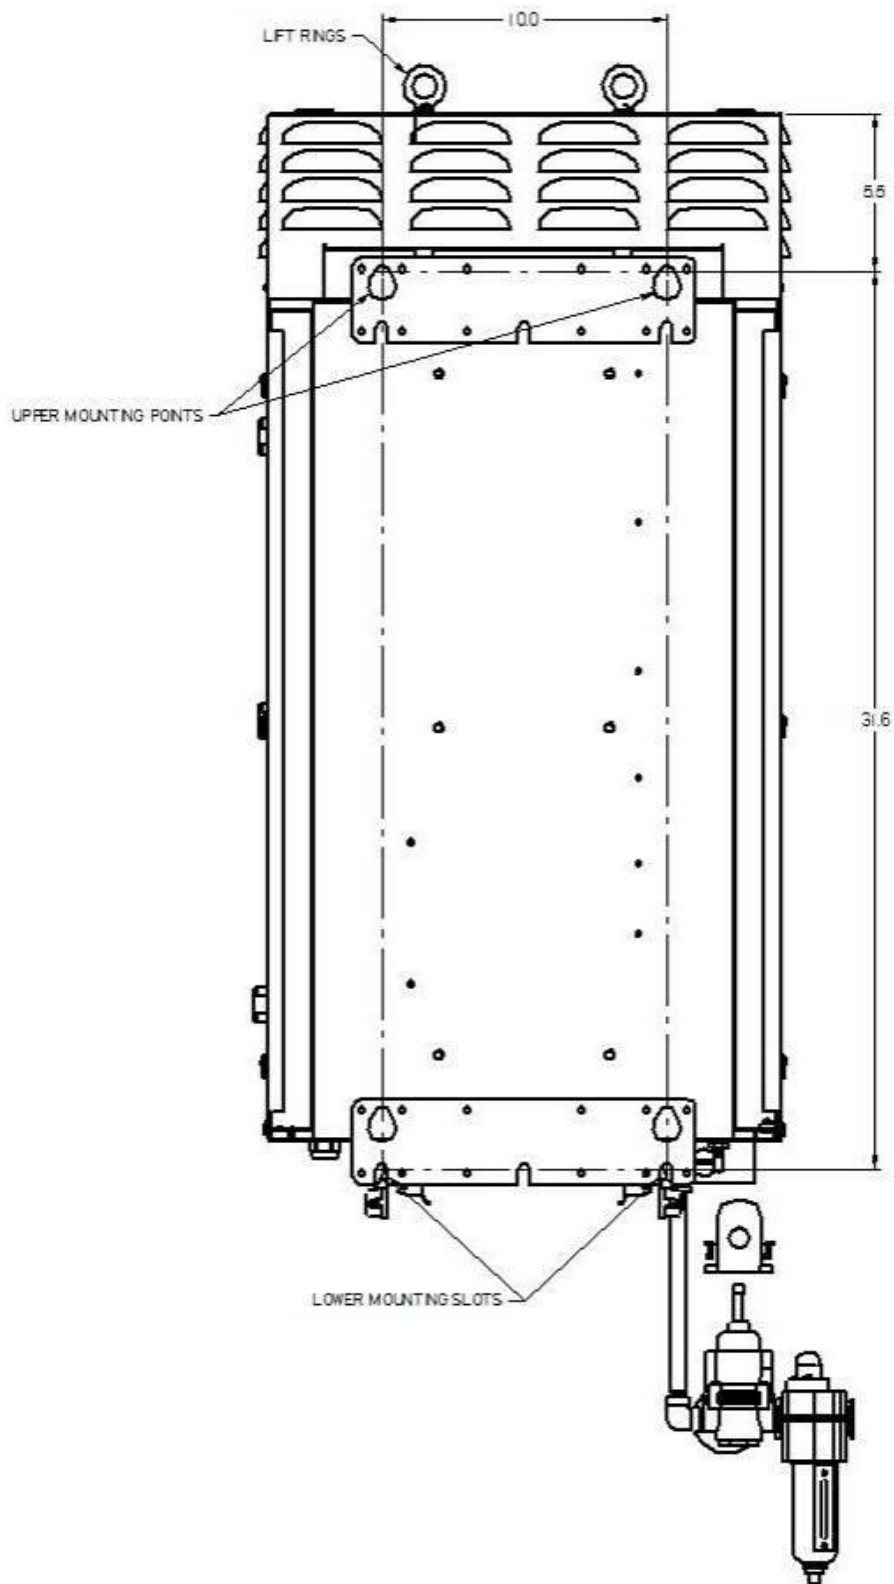

Figure 34. Rear view
Wall mounting instructions (see Figures 34, 36-38):
2. Using the lift points, as detailed in Figure 34, hang the Raman Rxn5 from the Endress+Hauser mounting bolts (p/n 2011697, previously installed to the Unistrut framing) such that the tear drop shape cutouts on the rear of the enclosure engage the mounting bolts per Figure 38.